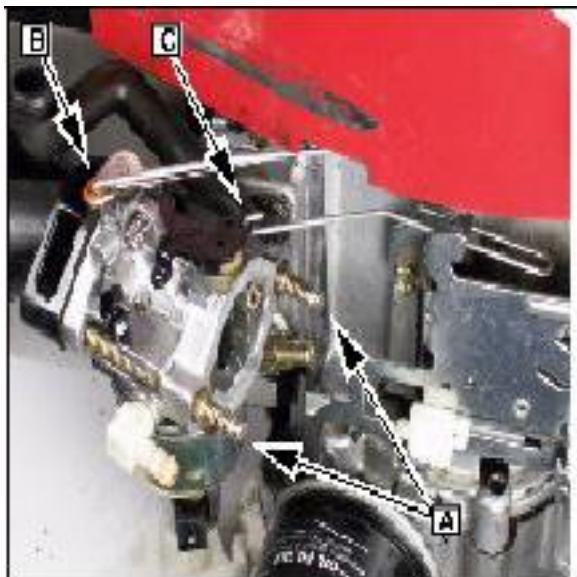

Fig. 23
Remove the two studs ([A] Fig. 23) that hold the carburetor to the air intake manifold.
9. While removing the carburetor, disconnect the governor link with anti-backlash spring (B) and the choke link (C) Fig. 23).